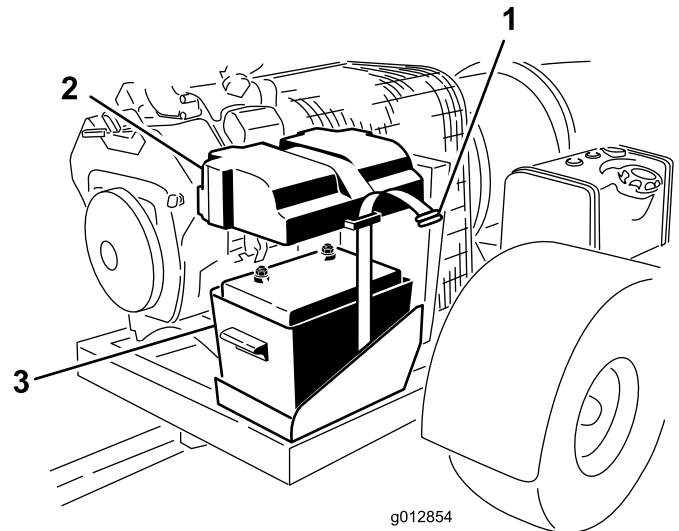

Figure 4
2. Remove the strap securing the battery cover to the battery box (Figure 4).